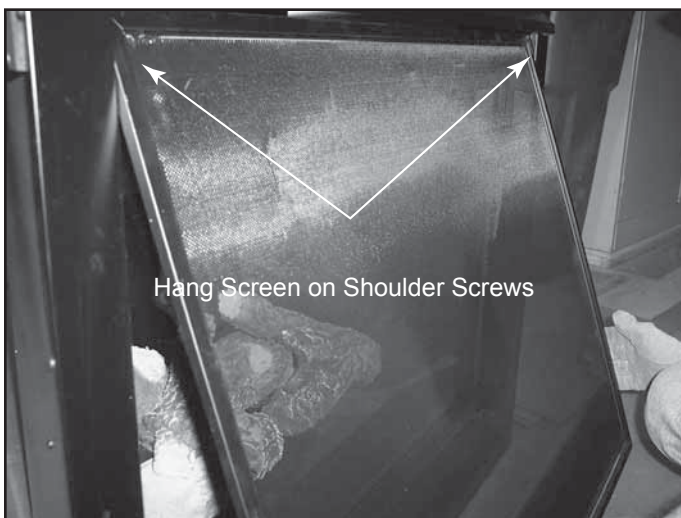

Figure 14.12 Hang Screen
- Hang the screen on the shoulder screws in the columns. See Figure 14.12.